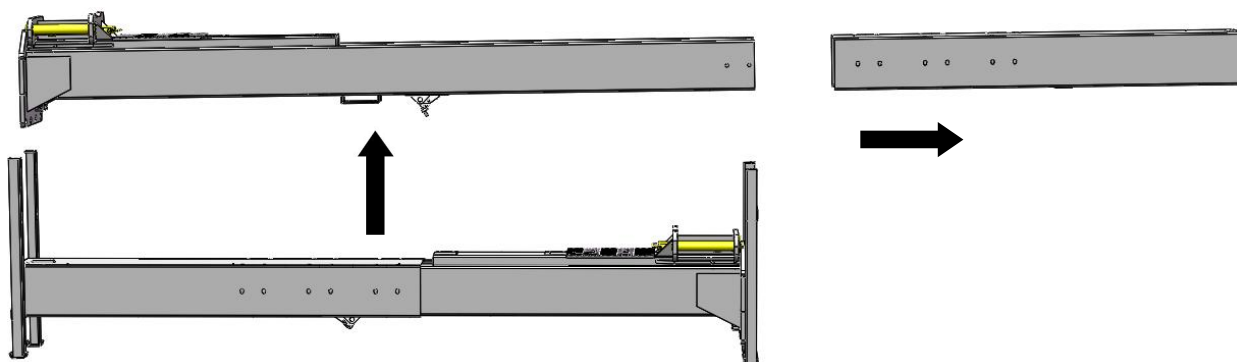

Fig. 13
4. Lift the upper column with a fork lift or hoist, loose the upper bolts of the package bracket, then take out the parts inside the column. (See Fig. 13)